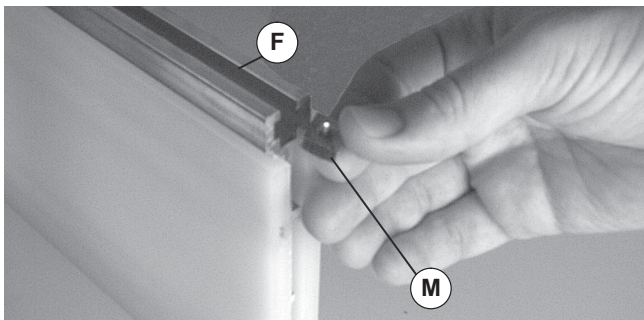

Figure 12
1. Install square nuts (Figure 12, item M) in each lane guide (F). Position each nut to its approximate mounting location.